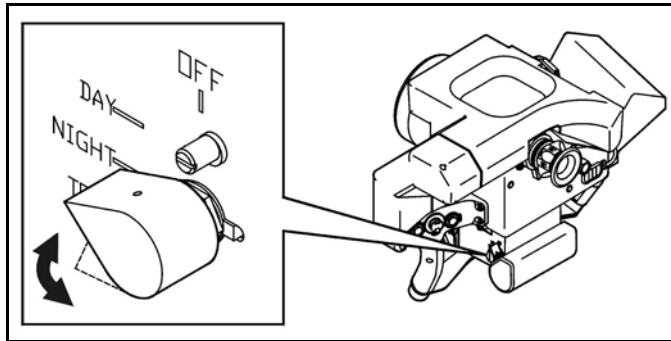

Figure 2-3. Power switch—TEST position.
(4) **TEST Position.** The Javelin enters a built-in test (BIT) routine (Figure 2-3) when the power switch is in the TEST position. The power switch is spring-loaded when in the test position. When the gunner moves the power switch to the TEST position, it then returns to the NIGHT position upon release.